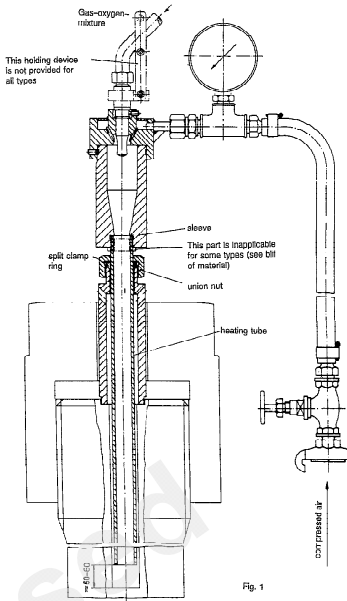

Fig. 1
4.2 Depending on the case in hand, the heating device is to be assembled as shown in Fig. 1 to 3. When inserting the rigid tube of the heating device in the heating bore as per Fig. 1, hold the tube so that its end is 30 to 40 mm from the base of the bore by means of the clamping device (split clamp ring and union nut). If the heating bore is so deep that the tube is not long enough establish this gap by welding on a suitable length of extension tube, machining the weld bulge down until flush with the outer circumference of the tube.